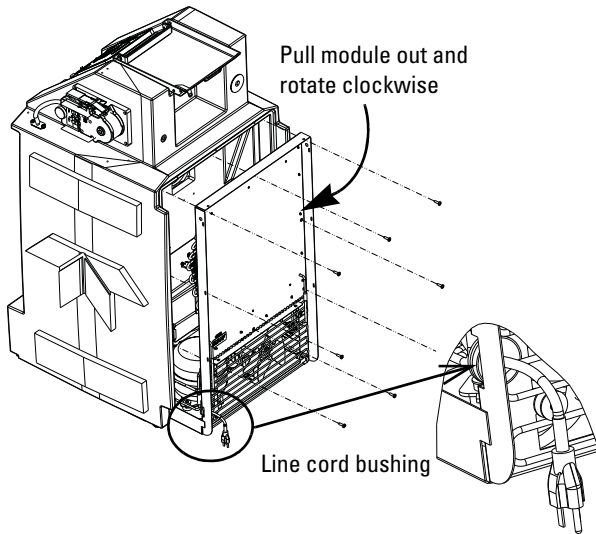

Figure 3: Remove refrigeration module mounting screws
4. Remove the refrigeration module mounting screws (Figure 3).
5. Carefully pull the module out and rotate clockwise to expose the wiring connectors. The bushing holding the AC line cord in place should slide along the cord (see inset, Figure 3). During reinstallation, the slack created in this step must be removed.